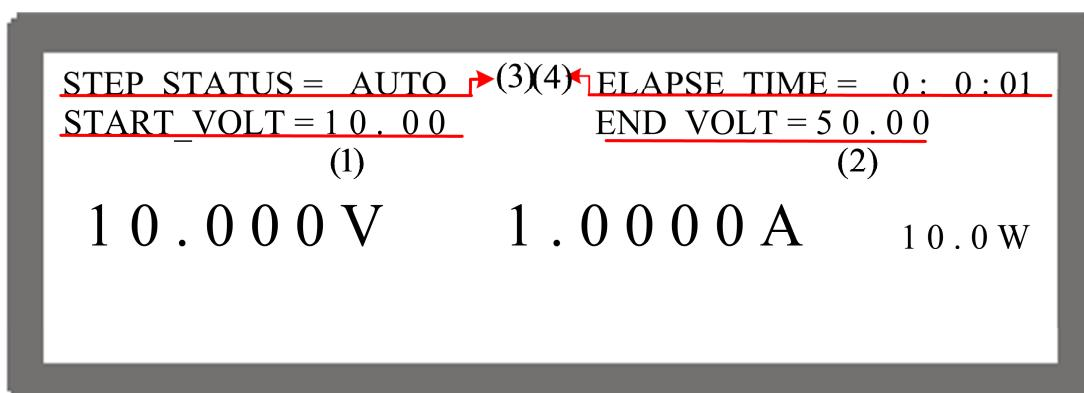

Figure 4-24
Figure 4-24 shows the main screen when executing V\_STEP MODE. Items (1)-(4) in Figure 4-24 are explained below.